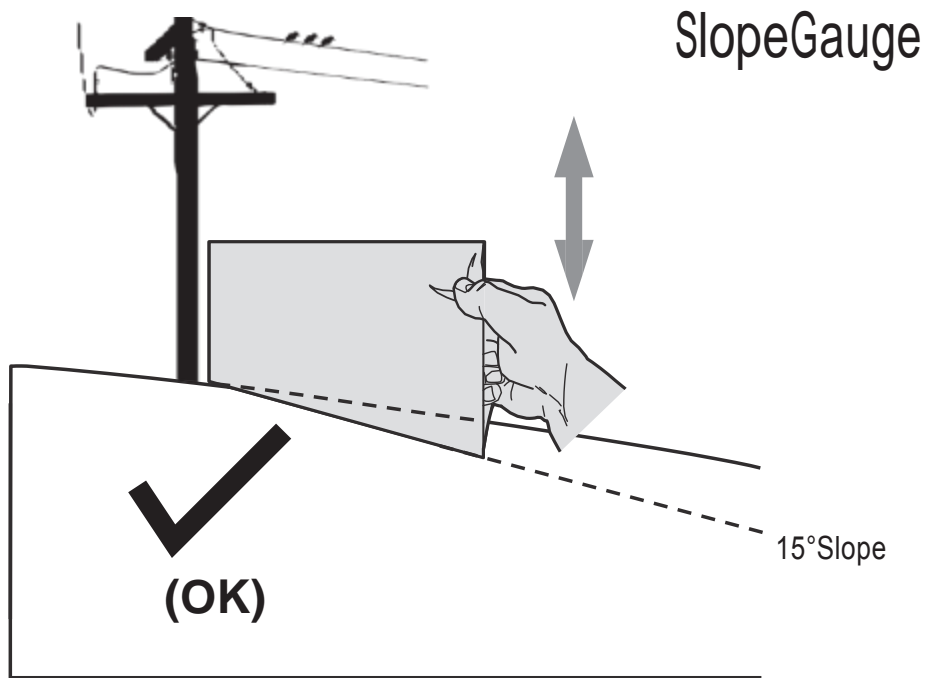
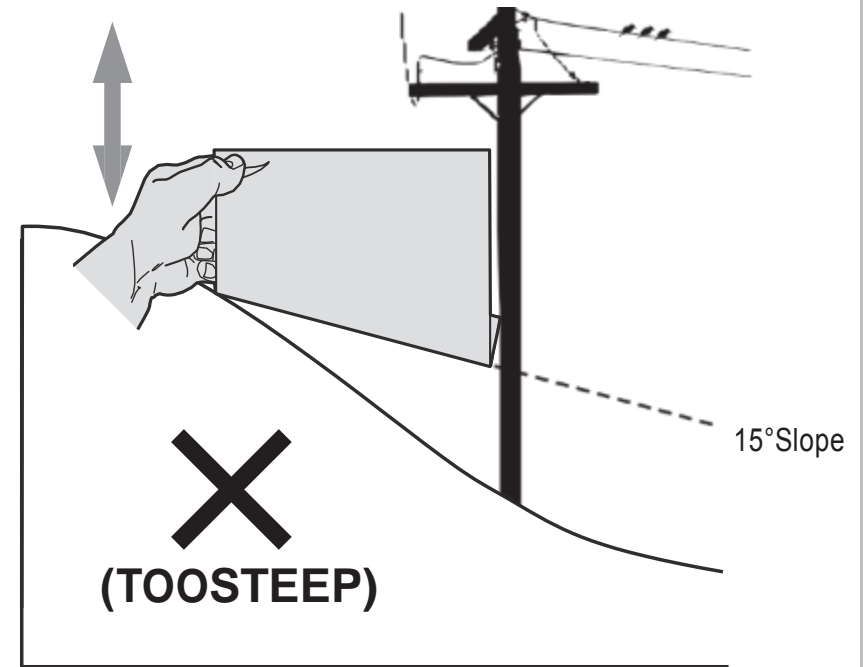

Figure 1
Figure 2
3. Align neither side of the slope gauge with the object (See Figure 1 and Figure 2).
4. Adjust gauge up or down until the left corner touches the slope (See Figure 1 and Figure 2).
5. If there is a gap below the gauge, the slope is too steep for safe operation (See Figure 2 above).